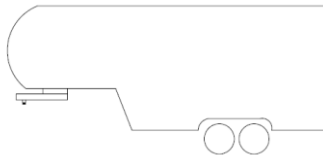

Figure 3
- King pin weight must not exceed 3,800 pounds (See Fig. 3). If in doubt have king pin weight measured by qualified facility.
2. The Sidewinder™ pin box is designed for a maximum of 20% Gross Trailer Weight on the pin (Pin Weight). See Fig. 3